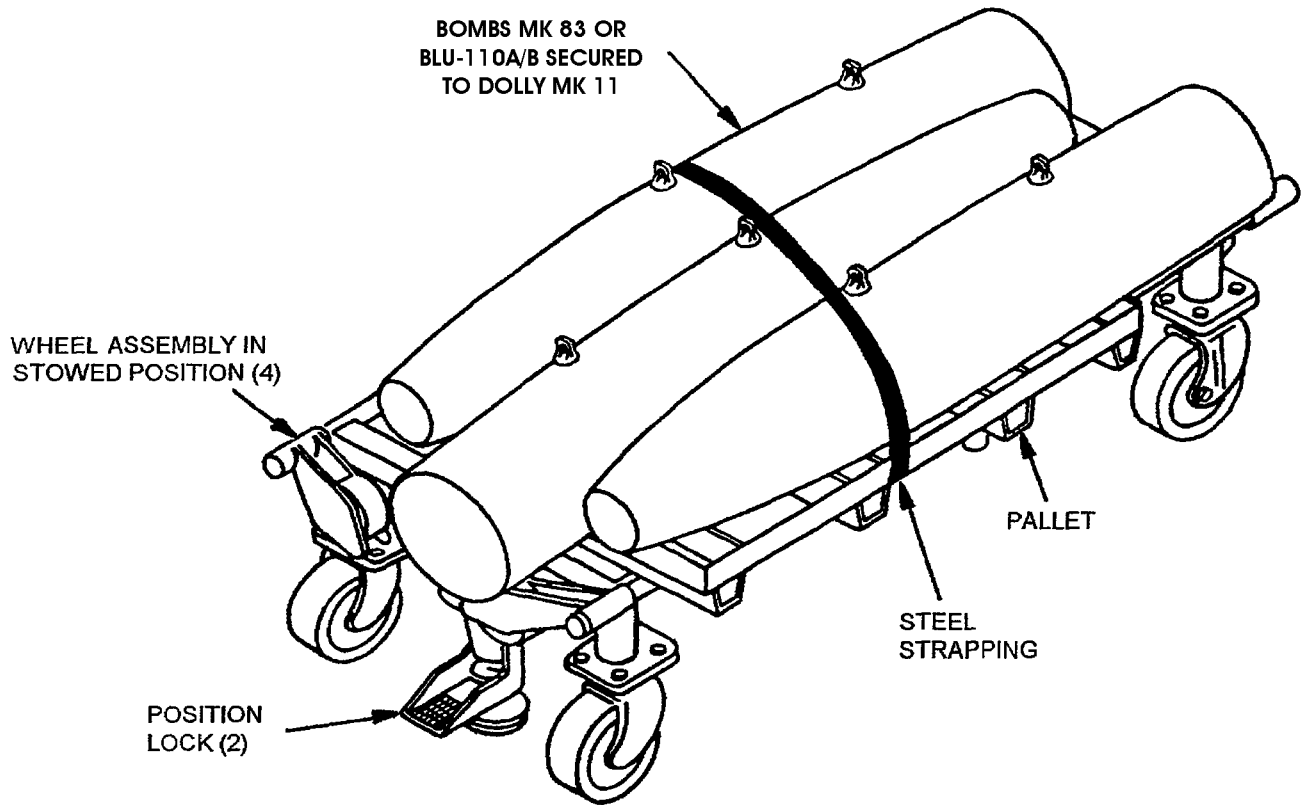

Figure B-2. Palletized Bombs Secured to Dolly Mk 11
- e. Using a forklift, carefully place the three palletized bombs on the Mk 11 Dolly, positioning the pallet so that it is centered on frame of dolly as shown in Figure B-2.
- g. Secure the palletized bombs to the dolly using steel strapping (Figure B-2).